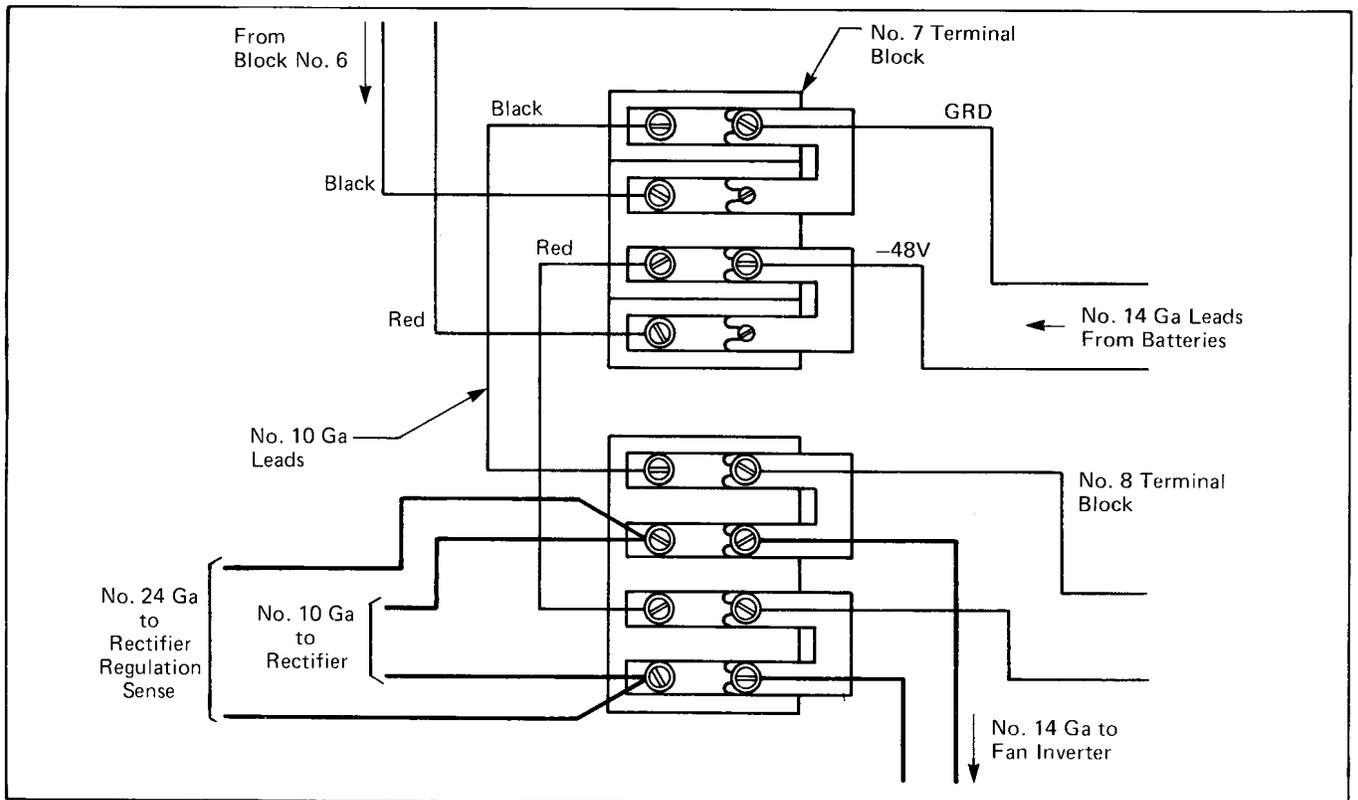

Fig. 13 - Fan Inverter, Batteries, and Rectifier Wiring
2.14 The rectifier located in the electronics compartment is connected to the battery for recharging purposes by 10-gauge stranded copper wire. Similarly, the fan inverter is connected to the batteries to power the fan at the left during primary power outages (Fig. 13).